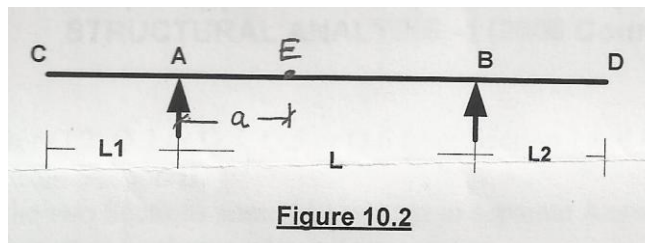

Figure 10.2
b) Plot ILD for reactions at A and B supports and S.F. and B.M. at point 'E' for the beam shown in Figure 10.2. (8)